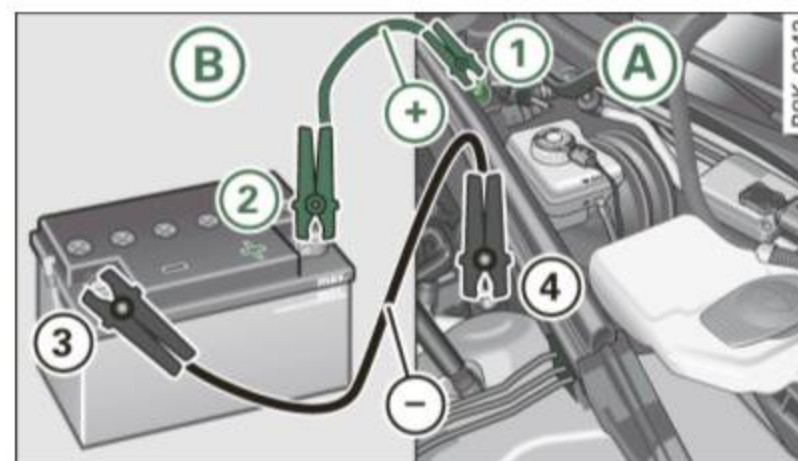

Fig. 240 Jump starting with the battery of another vehicle: (A) discharged vehicle battery, (B) booster battery
- 1. Connect one end of the positive cable (red) on the **jump start bolt** \Rightarrow page 326, fig. 240 ① (Bolts under red cover = “positive”) of the vehicle to be started ①A.
- 2. Connect the other end to the positive terminal ② of the booster battery ②B.
- Please note that the procedure for connecting a jumper cable as described above applies specifically to the case of your vehicle being jump started. When you are giving a jump start to another vehicle, do *not* connect the negative (–) cable to the negative (–) terminal on the discharged battery ④ \Rightarrow page 326, fig. 240. Instead, securely connect the negative (–) cable to either a solid metal component that is firmly bolted to the engine block or to the engine block itself. If the